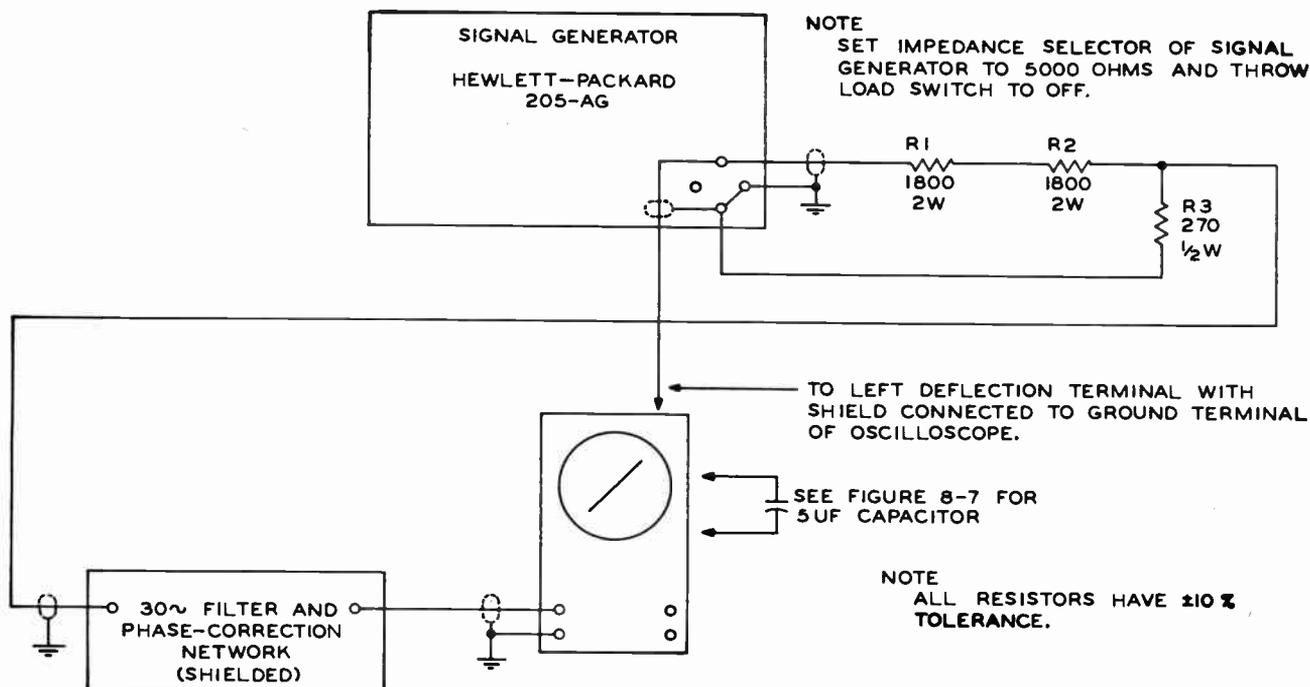

Figure 8-8. Circuit For 30 CPS Channel Calibration
7. Connect audio oscillator to scope. See figure 8-8.